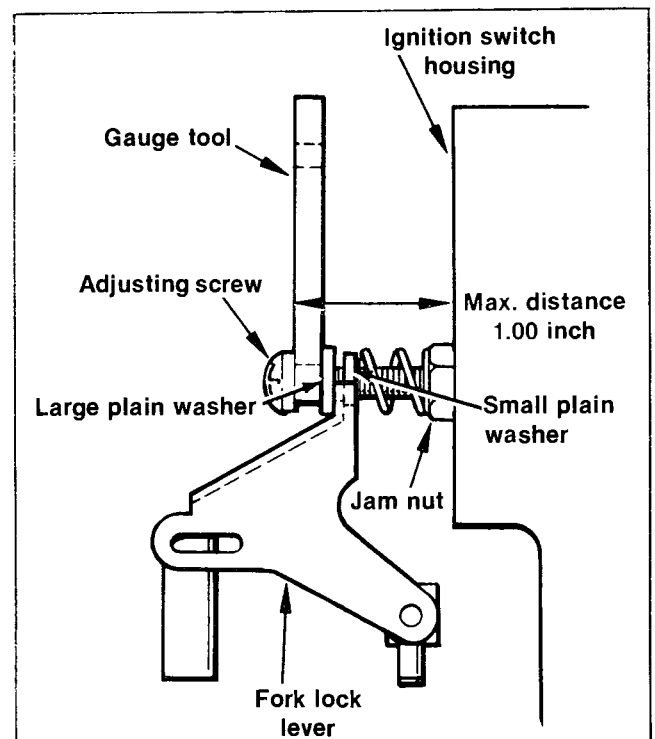

Figure 2. Adjusting Screw Adjustment
- d. See Figure 2. Insert the special Gauge Tool, from Kit 93330, between the head of the adjusting screw and the large plain washer.